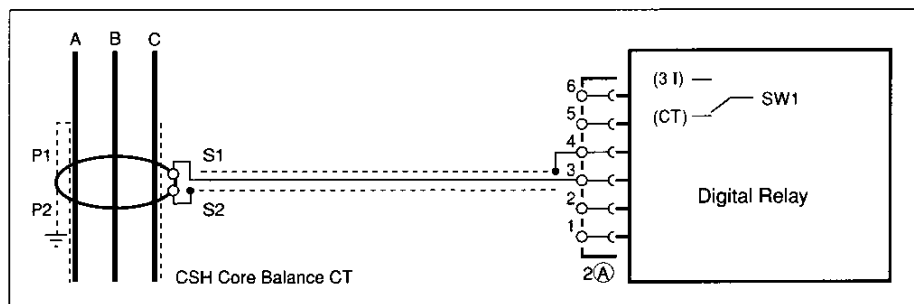

Figure 79: Connecting digital relay with a CSH core balance CT for the 30 A rating
- For 30 A rating: connect to terminals 2A3 and 2A4 (figure 79).